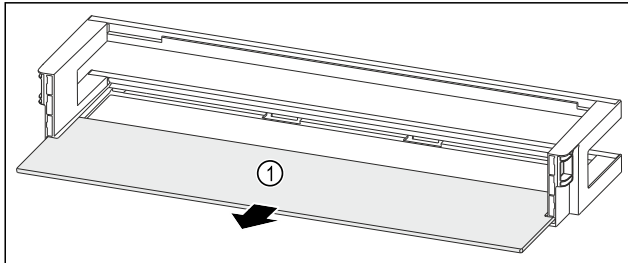

Fig. 95 Door rack with shelf
- Remove the shelf Fig. 95 (1).